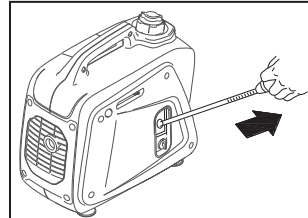

Fig. 7-2
- Pull the starter handle slowly until resistance is felt. This is the “Compression” point. Return the handle to its original position and pull swiftly. Do not fully pull out the rope. After starting, allow the starter handle to return to its original position while still holding the handle. Grasp the carrying handle firmly to prevent the generator from falling over when pulling the recoil starter. (See Fig. 7-2)